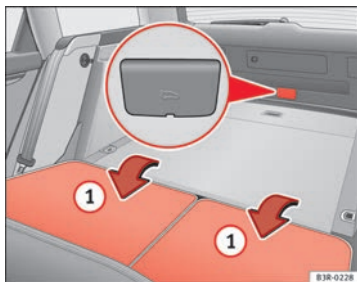

Fig. 76 Detail of the rear seats and luggage compartment: access to the emergency release mechanism
- Fold down both rear backrests ① ⇒ Fig. 76.